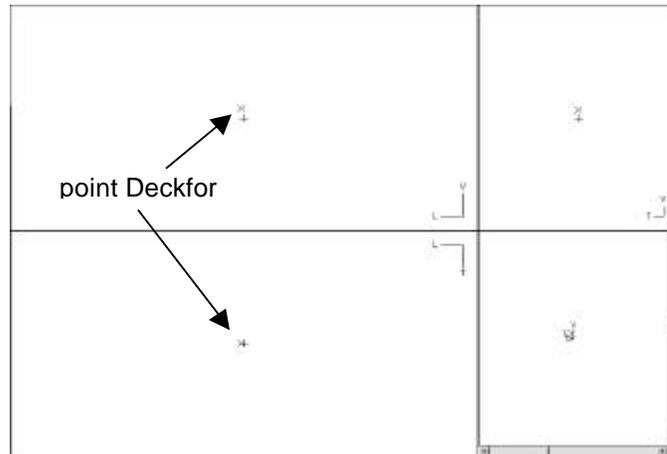

Figure 1-2: The point Deckfor. Note that the “x” is the point Deckfor, while the “+” is its “base point”.
4. Hold down the **Shift** key and click on the **Zoom Extents** button to zoom out in all views. (See Figure 1-2.)